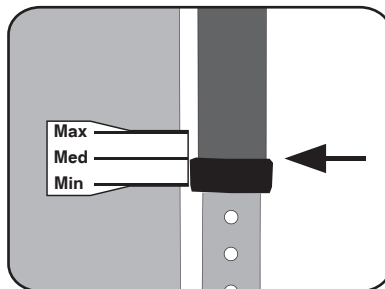

Fig. 3: Move the calibration gauge so the Medium mark lines up with the bottom of the mast.
3) Move the velcro downhaul gauge at the bottom of the sail so that the medium mark of the gauge lines up with the bottom of your mast (figure 3).